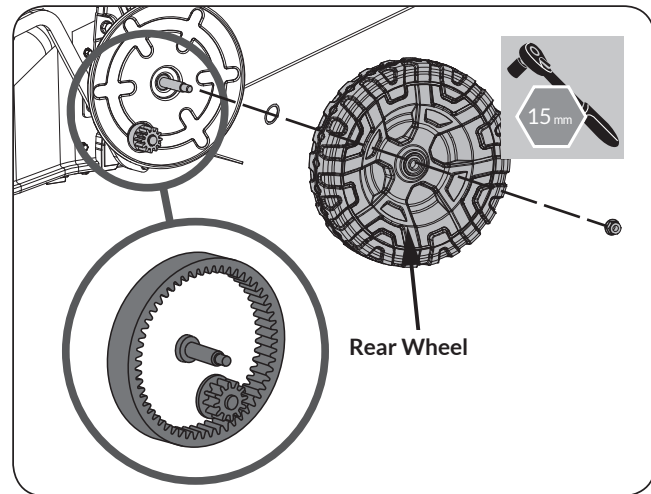

Figure 38
4. Assemble the new wheel with wheel nut and washer. (See **Figure 38**)